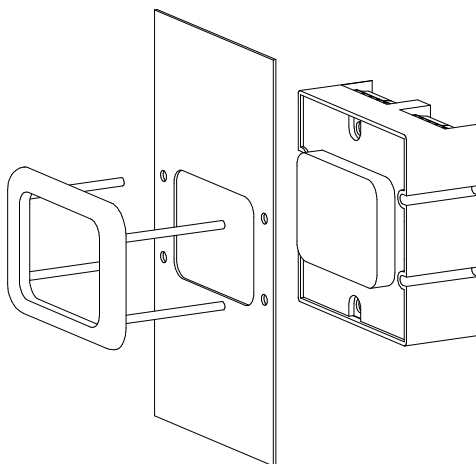

Figure 3 – Display for fixing with plastic frame
- With frame (Figs. 3, 4 and 6) for plates up to 3 mm in thickness. Supplied with supplement washers to get the screen grade line with the front side of the frame when plate is 1, 2 or 3 mm in thickness.